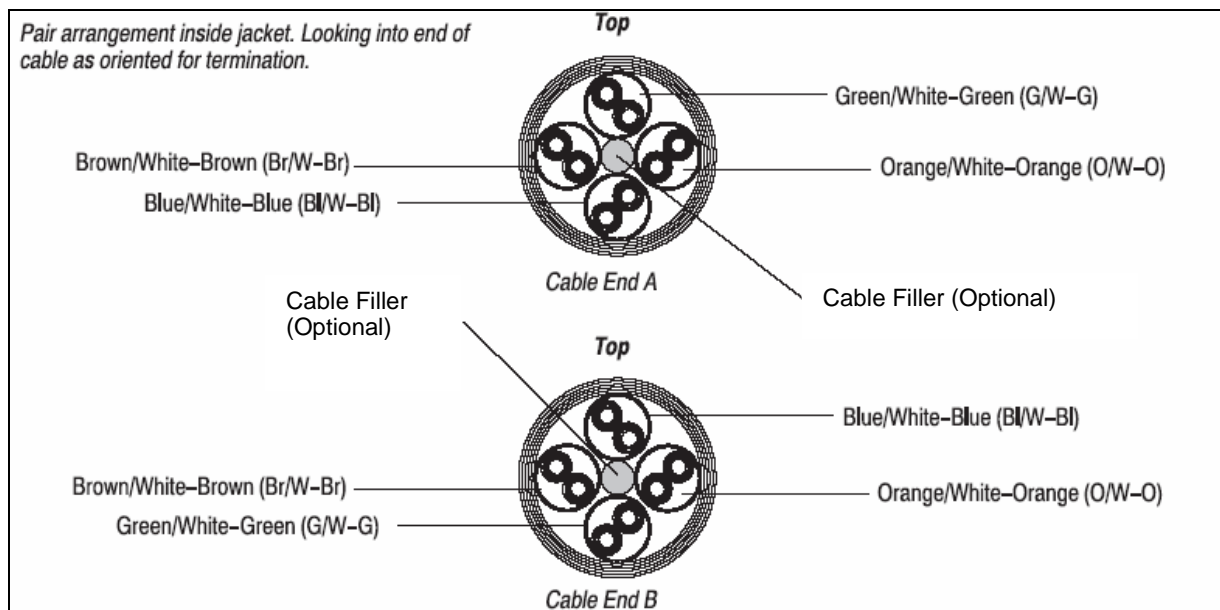

Figure 2
6. Cable Pair Arrangement: The arrangement of colour-coded pairs within the cable jacket applicable to TIA/EIA T568B wiring and the termination procedures described in this specification is shown in Figure 2. Cable end A applies to one end of the cable and cable end B to the opposite end. For TIA/EIA T568A wiring or termination of cables with pair arrangements other than shown in Figure 2, contact the responsible Tyco Electronics Engineering Department.